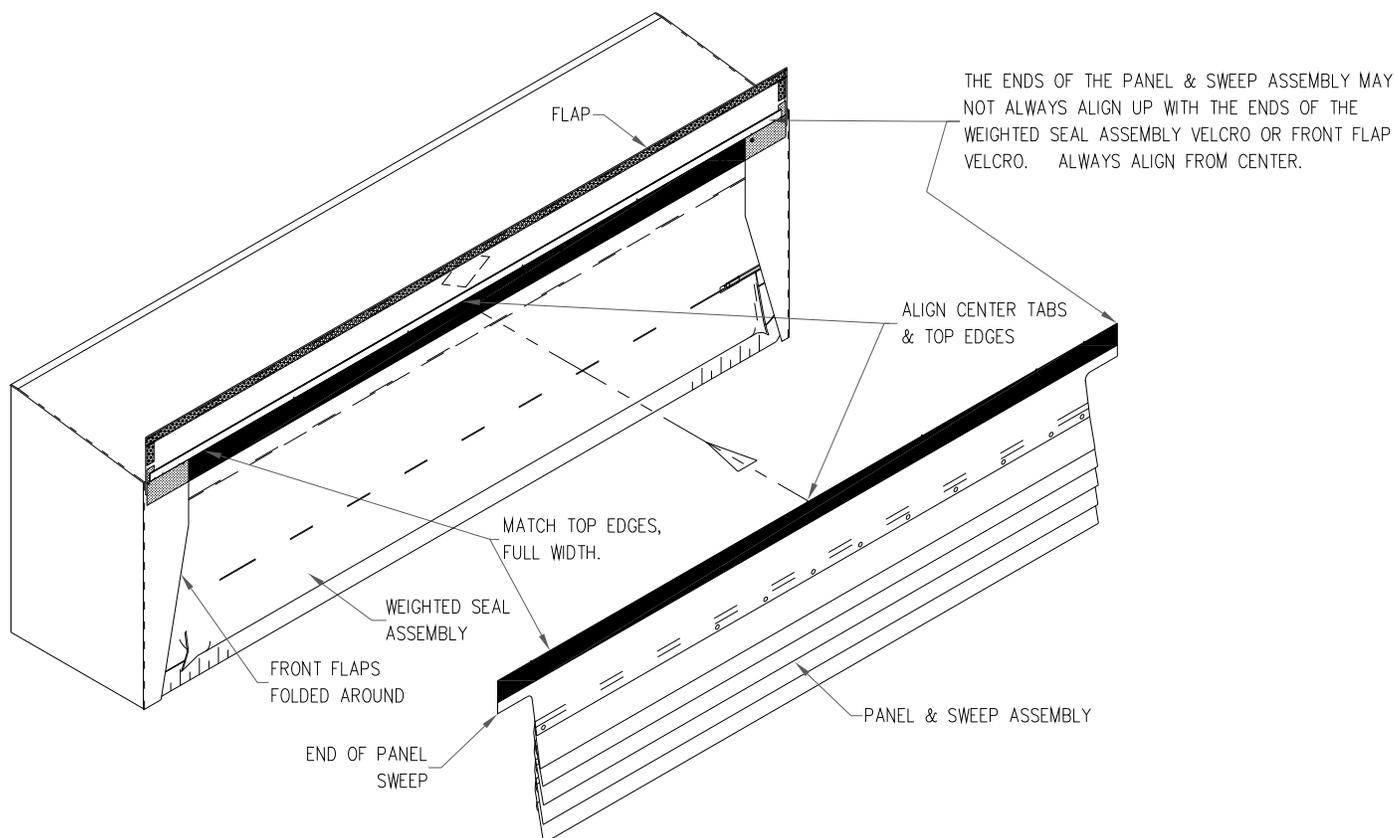

FIGURE 22
7. Install the impact plate assembly. This attaches in the same method as the weighted seal assembly by using and matching velcros together. Again, start at the center, align the tabs, match the velcros and top edges as you work out in both directions from the center across the face of the weighted seal assembly. (**Note:** The ends of the impact plate assembly velcro will not always align up with the ends of the weighted seal assembly velcro or endcap velcro). Verify the impact plate-mounting height by looking at the bottom of the last plate. The bottom edge should be flush to 1/2" above the center of the weighted seal it is in front of. If it is not, remove the impact plate assembly and re-adjust the attached location, and then re-attach. (See Figures 22 & 24)